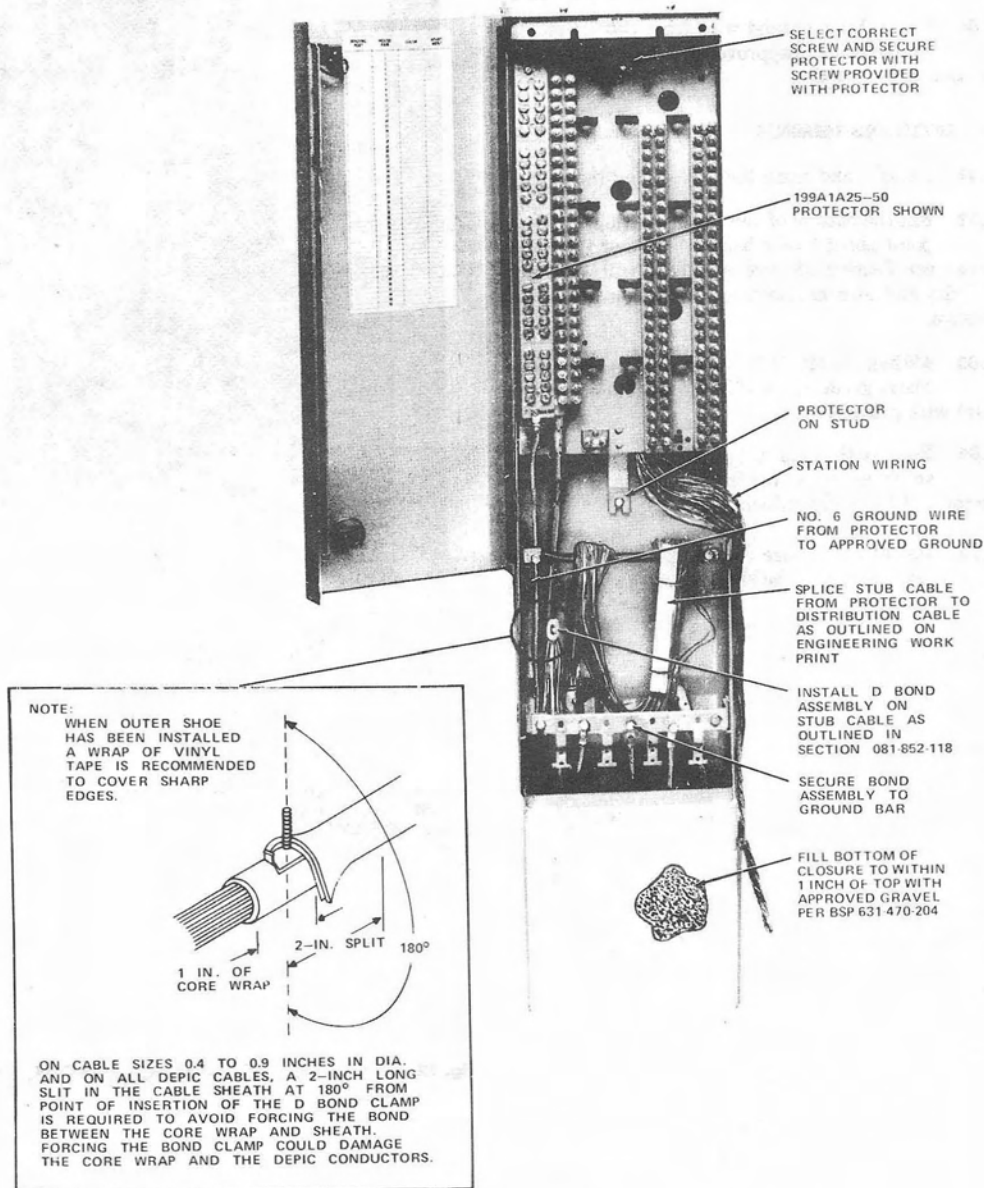

Fig. 11—Installed 199-Type Protector
5.02 Install the D bond assembly on the stub cable as outlined in Section 081-852-118; then, secure the bond assembly to the ground bar (Fig. 11).